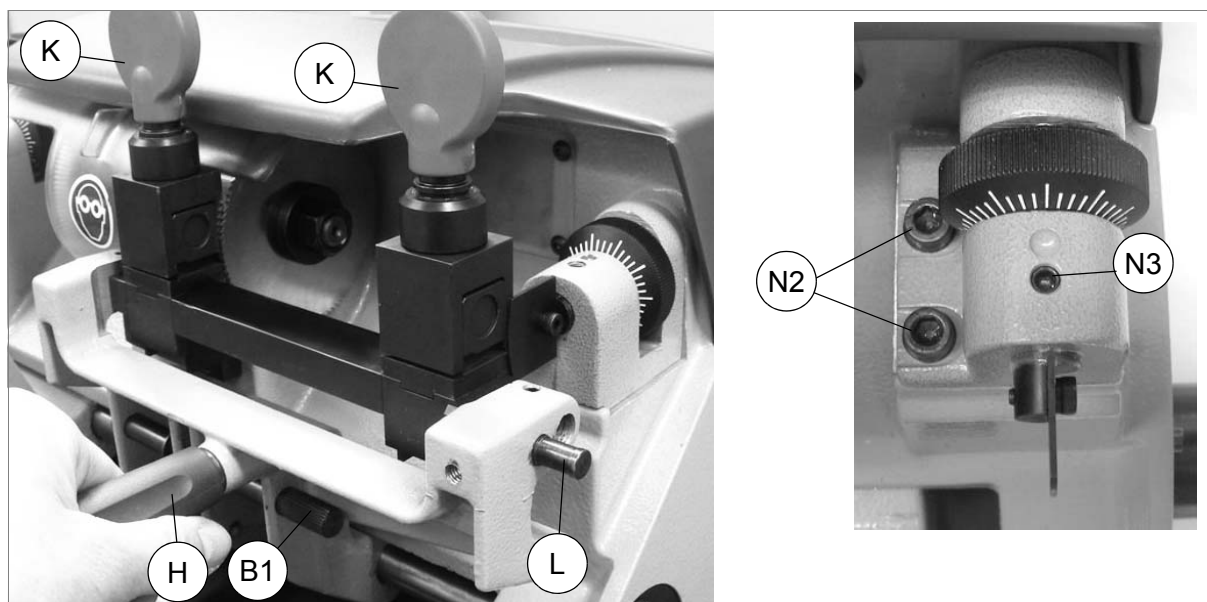

Fig. 21
- 3) Lock the tilting movement of the clamps by inserting the pin (L) into its seat.
- 4) Close the 2 clamps with their knobs (K).
- 6) Use the lever (H) to raise the carriage and take the right-hand side of the clamp up against the left-hand side of the tracer point and cutter (fig. 21).
- 7) The ideal condition is for both tools (tracer point and cutter) to be in contact with the relative side of the clamp. If this is not so, loosen the 2 tracer point holder screws (N2) (fig. 21) and move the tracer point holder manually (right or left) until the ideal condition is found.